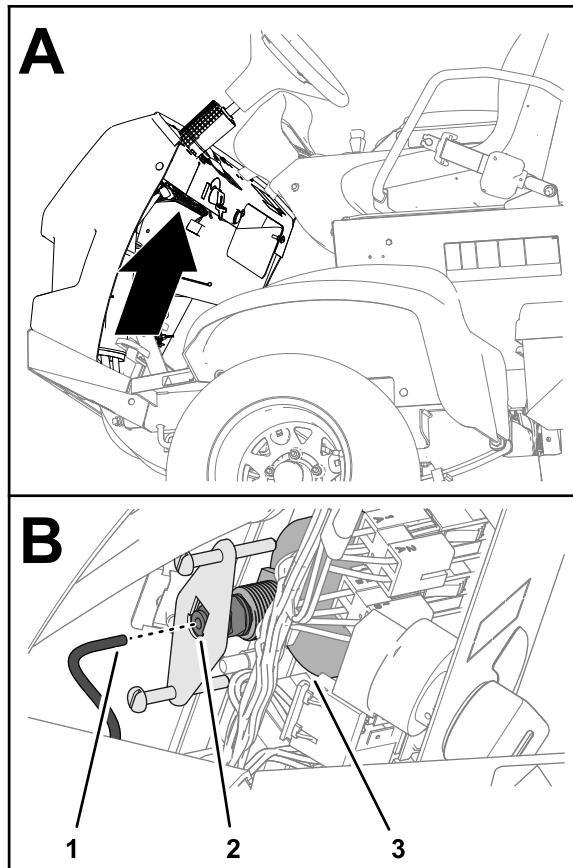

Figure 128
1. Insert the pressure-gauge tube into the tube coupler at back of the pressure gauge (Figure 128).